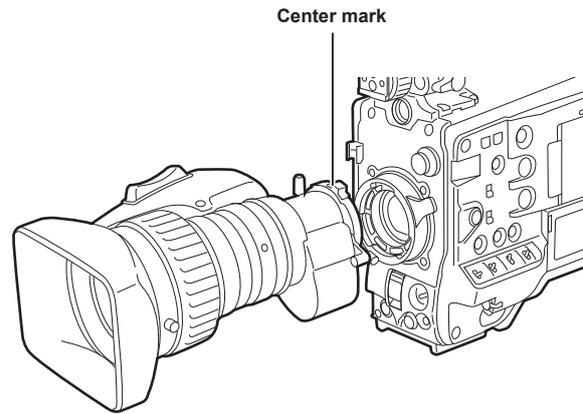

Fig. 2
- 2** Align the indentation at the top center of the lens mount with the center mark of the lens to mount the lens. (Fig. 2)